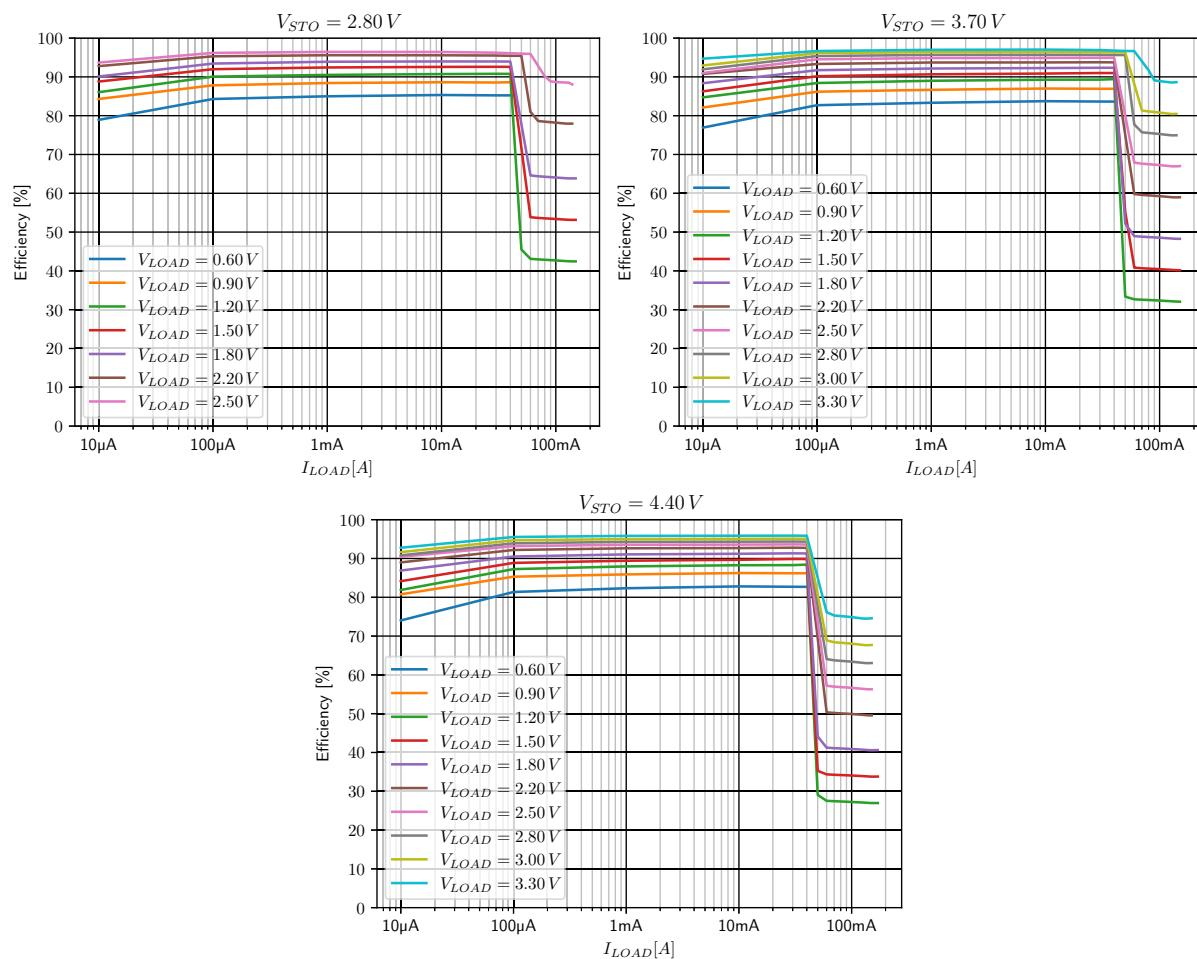

Figure 8: Buck (LOAD) converter efficiency with $L_{BUCK} = 10 \mu$ H (TDK VLS252012CX-100M-1), $T_{MULT} = x2$
- Optional: a device able to act as an I²C master and send I²C commands to the AEM13921. Only useful when testing settings that are not accessible through the configuration pins, such as buck timings. Please note that the results shown on Figure 8 are with buck timing x2, that is the default value when not configuring the AEM13921 through the I²C registers. If using the I²C bus, the default value of the BUCKCFG register is 0x03 (timing x4).